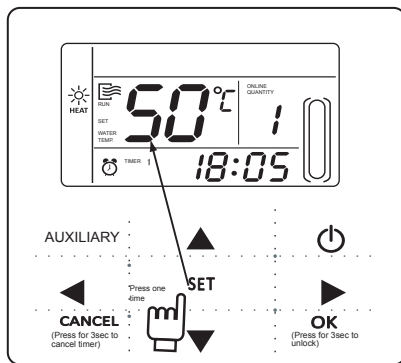

Fig.4-2
- 2) Use three GB950-86 M4X20 screws to directly install the back cover on the wall. (Fig.4.2)